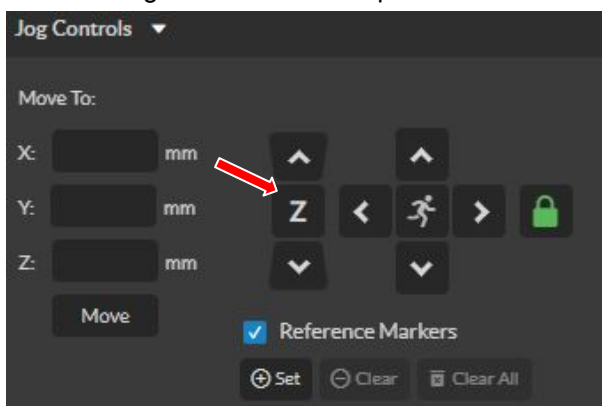

Fig. 20
3. Select the Jog Control arrow to open menu and select the **Z** autofocus button.(See Fig. 20)